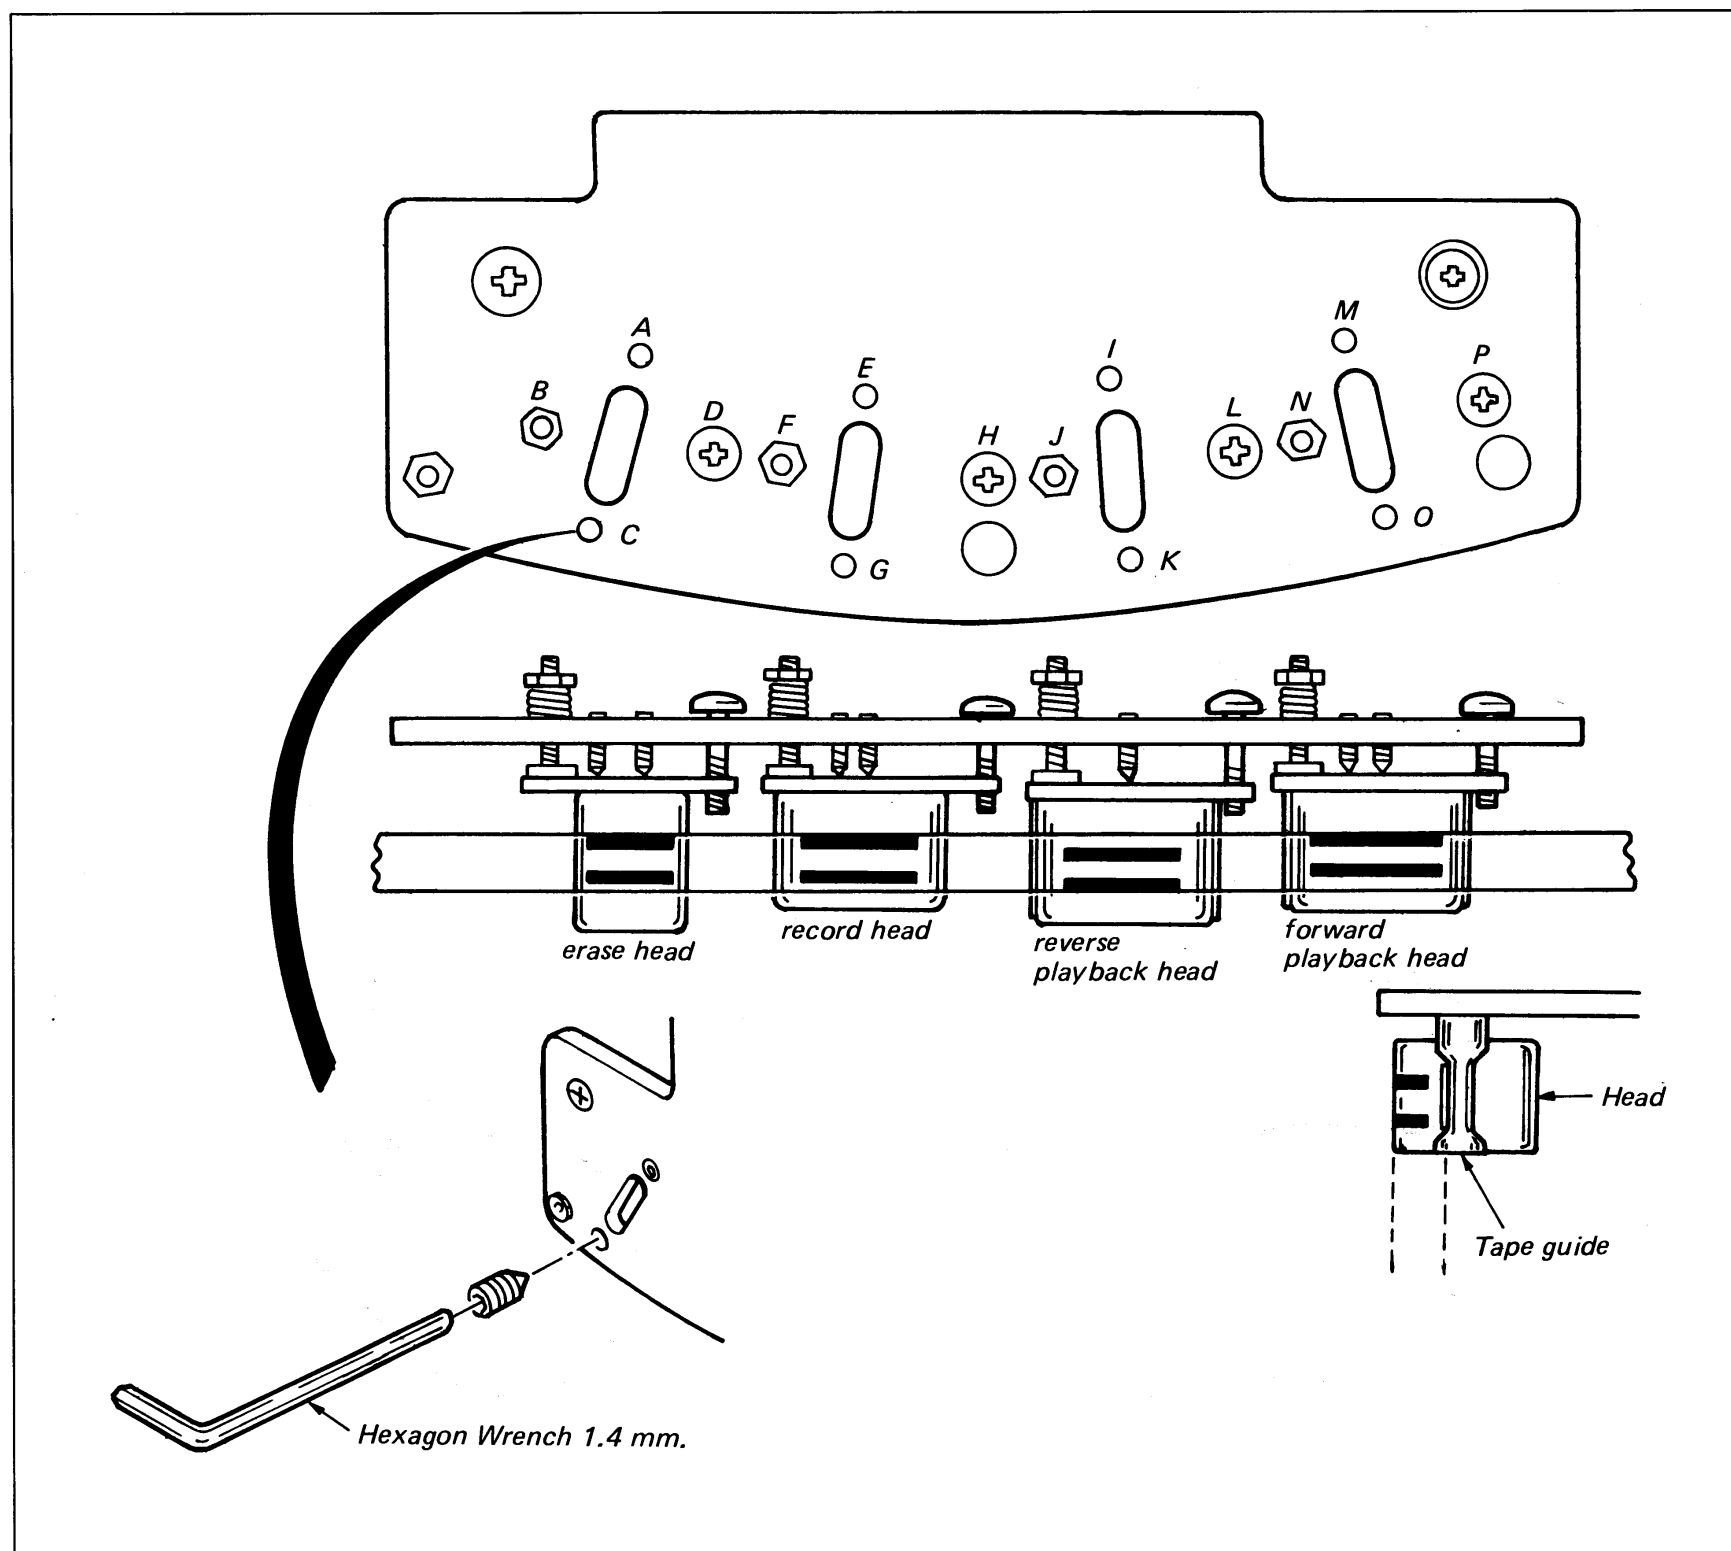

Fig. 4-4
4-7-1. Preliminary Adjustment (See Fig. 4-4)
Run a tape in the forward direction at 9.5 cm/sec (3 3/4 ips), adjust the screws as shown in Fig. 4-4 for the followings.
4-7-2. Forward Playback Head Adjustment (See Fig. 4-4)
In the playback of 700 Hz, adjust M, O, P, of Fig. 4-4 for the maximum indication at the V. T. V. M.
In the playback of 15 kHz, adjust P of Fig. 4-4 for the maximum indication at the V. T. V. M.
4-7-3. Reverse Playback Head Adjustment (See Fig. 4-4)
- 1. Perform the adjustment as in "Forward Playback Head Adjustment". Adjust I, K, L, of Fig. 4-4 for tracking adjustment, and L of Fig. 4-4 for azimuth adjustment.
4-7-4. Recording Head Adjustment (See Fig. 4-4)
Adjust E, G, H, of Fig. 4-4 for the maximum indication at the V.T.V.M.
Change the output frequency to 15 kHz. Adjust H of Fig. 4-4 for the maximum indication at the V.T.V.M.
4-7-5. Erase Head Adjustment (See Fig. 4-4)
- 3) Adjust A, C, D, of Fig. 4-4 for the minimum indication at the V.T.V.M.